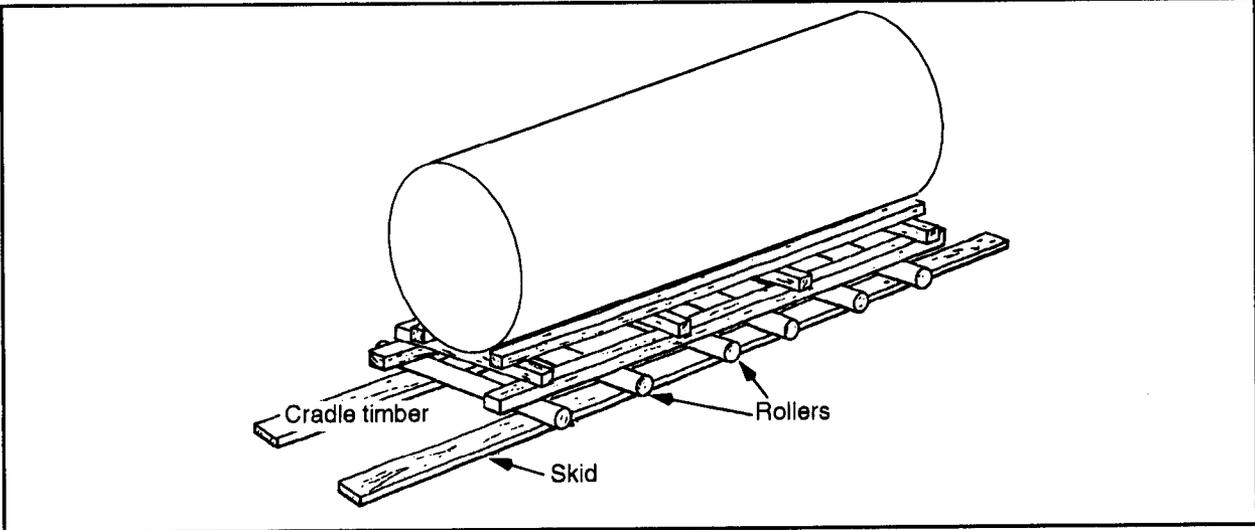

Figure 5-13. Using skids and rollers
- Provide a runway surface when rollers are used (see *Figure 5-13*).
the rollers must form continuous support. Ordinarily, place four to six rollers under the load to be moved (see *Figure 5-13*, page 5-17).